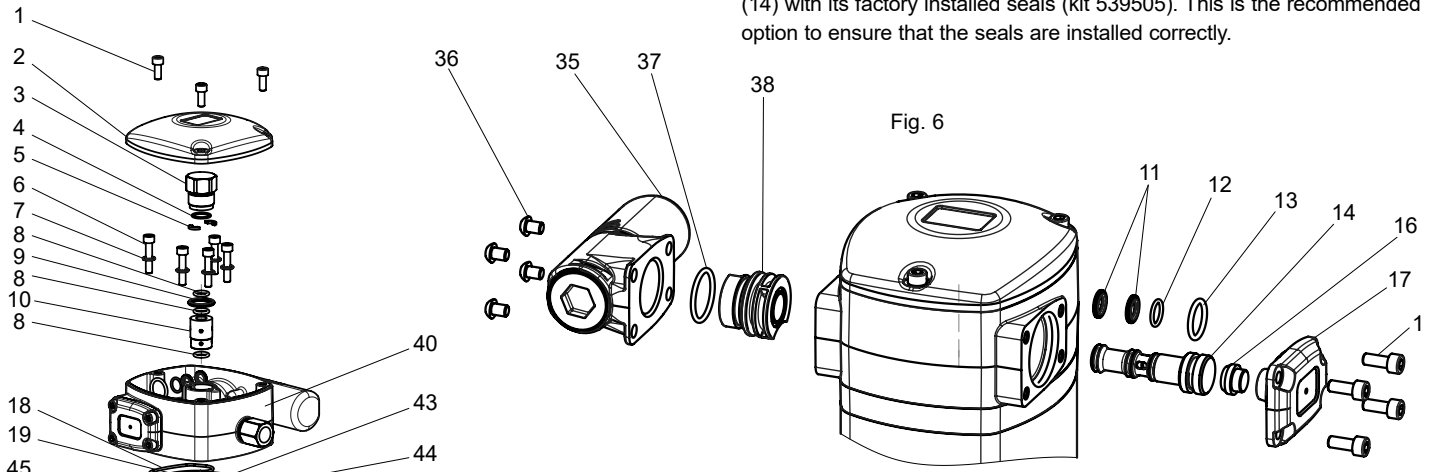

Fig. 6
AIR DISTRIBUTOR (FIG. 6)
3. Using a plastic tool, gently tap the slide (14) on the side of its smallest diameter through the motor (Fig. 6), remove the slide (14).
4. Replace the slide seals 2x(11), (12) and (13), or replace the complete slide (14) with its factory installed seals (kit 539505). This is the recommended option to ensure that the seals are installed correctly.
DISTRIBUIDOR DE AIRE (FIG. 6)